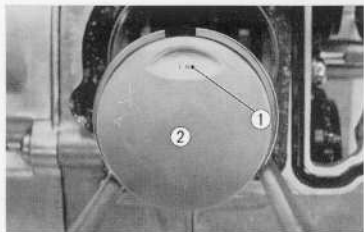

Fig. 3.58 Assembling the piston
The piston must be assembled so that the "IN" ① stamped on the piston head is toward the top when the engine is in the normal attitude. (Fig. 3.58)